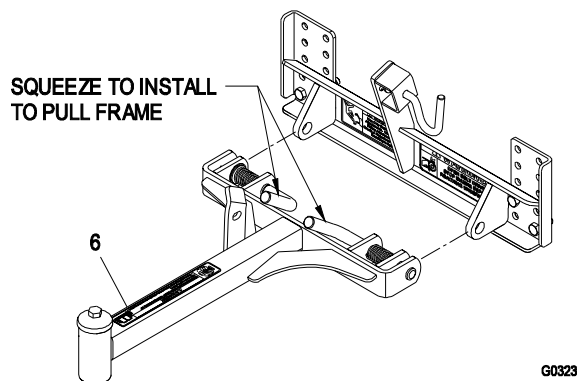

FIGURE 7
4. Locate the pull arm assembly (Item 6). Align pull arm assembly with pull frame (Item 5) as shown in Figure 7. Squeeze quick connect pins on pull arm assembly and attach pull arm assembly to pull frame.